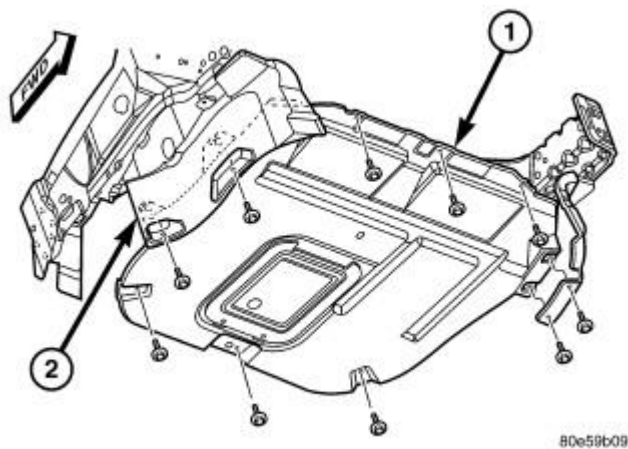

Fig. 168: Engine Compartment Lower Silencer
7. Install engine compartment lower silencer (1) and accessory drive belt splash shield (2). See **Fig. 168** .